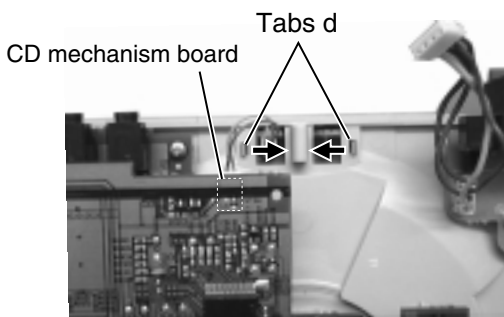

Fig.34
■Removing the LED board (See Fig.34 and 35)